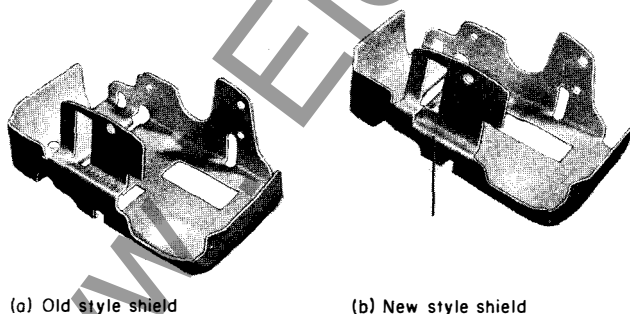

Fig. 6. Motor shield for demand registers
**NOTE:** Demand registers require a motor shield when used on meters having magnetic suspension. Before installing Type M-30 and M-31 demand registers with serial numbers below 1653204 upon a meter, it is necessary to remove the motor shield and replace it with a shield of later design. This change in the shield design (see arrow in Fig. 6) eliminates mechanical interference between the register and the meter.